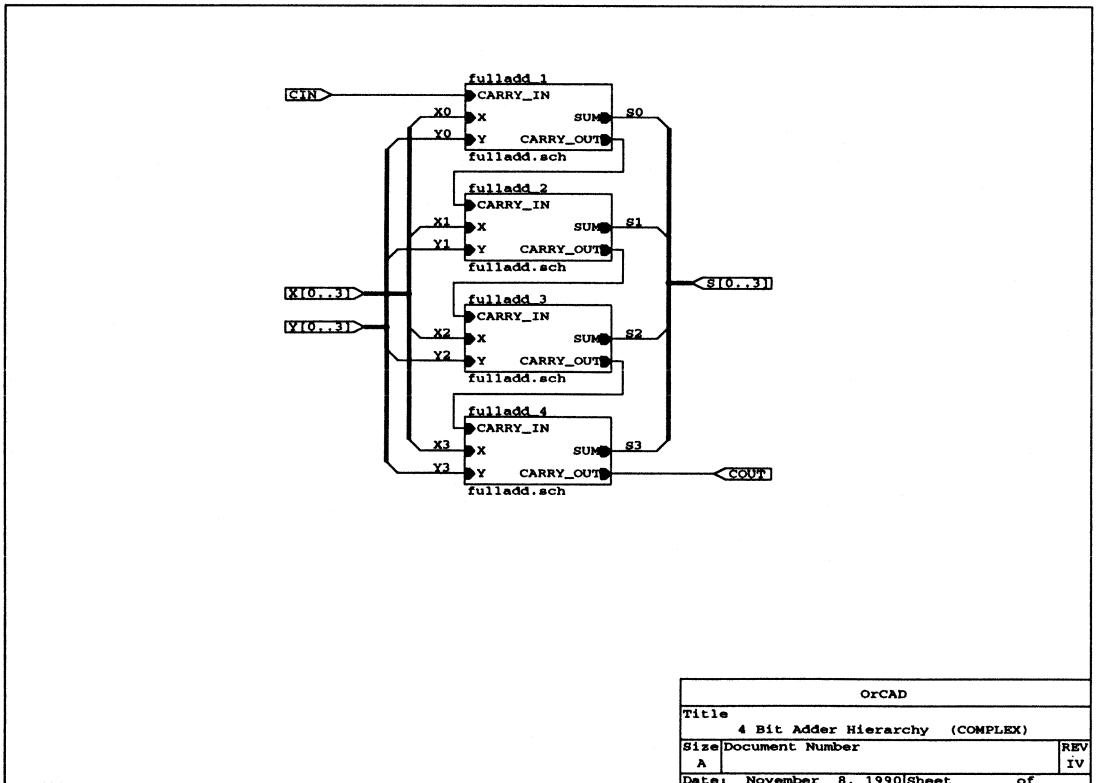

Figure 8-8. The root worksheet of the 4-bit adder design.
This section describes a three-sheet complex hierarchy. Complex hierarchies are very useful when designing common logic blocks that are repeated. Figure 8-8 shows the root worksheet for the 4-bit adder design.
5. Select **Draft** and then select **Execute**. The **4BIT** root worksheet displays (figure 8-8).